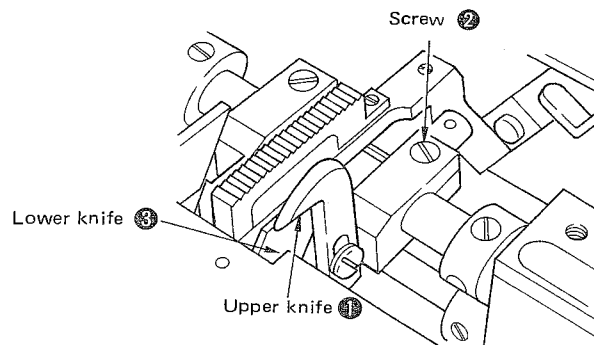

Fig. IV-8-1
The cutting width of the material can be adjusted within the range of 12 mm to 50 mm by changing the position of upper knife ① and lower knife ③ . (See Fig. IV-8-1)
Loosen screw ② , and adjust the upper knife cutting width by moving the upper knife to the left or right. Then tighten the screw so that the upper knife is fixed firmly in place. ( See Fig. IV-8-1 )